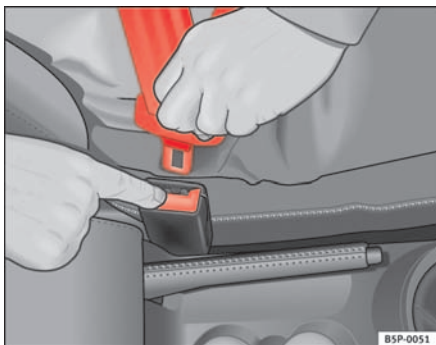

Fig. 16 Removing latch plate from buckle
- Press the red button on the belt buckle ⇒ fig. 16. The latch plate is released and springs out ⇒ .